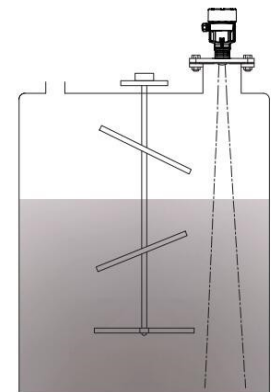

Figure 4
- ◆ When there is a stirring mixer in the tank which paddles interfere with the radar level measurement, if these stirring paddles cannot be avoided, it is necessary to use the function of the false echo storage of the instrument to eliminate the interference signals from the false wave. Please refer to the figure 4 below.